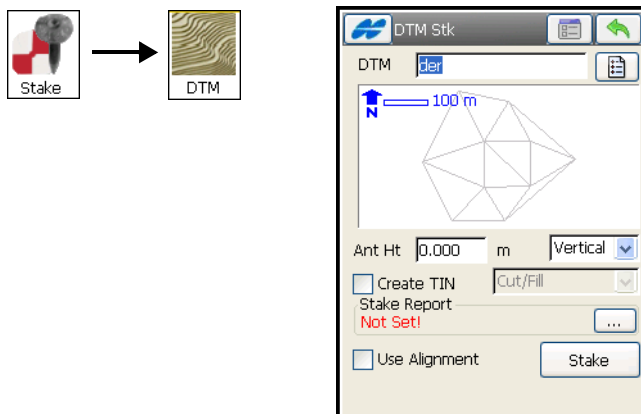

Figure 9-57. Select DTM
2. On the *DTM Stk* screen (Figure 9-57):